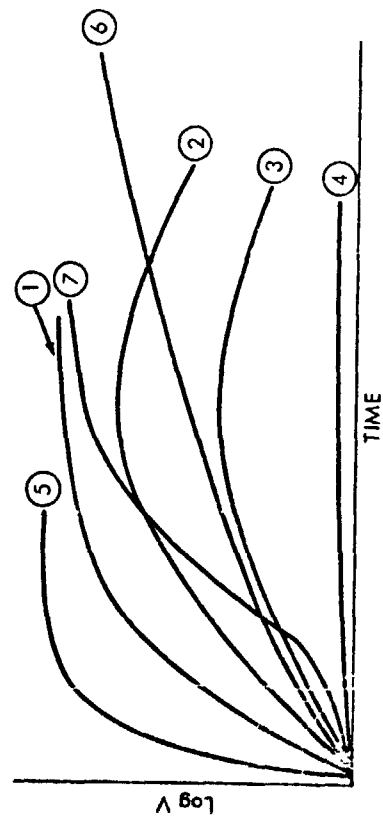

FIGURE 111
If you short out for 16 hours, you might be operating from this current level (ref. 109), and of course get a very fast rise (curve 5, ref. fig. 111). If you short out from this point out here, (ref. fig. 3, curve 6), like 48 hours, the current source may be very small, and you'll get this kind of response.
Now, there's an additional effect that we've seen that I don't have a solid explanation for. But the voltage does not rise immediately. It goes up like this (ref. fig. 111, curve 7). It's exponential, once it starts. But it has a delay time. This is the open-circuit recovery. And I don't know why that delay occurs; again, cells that have this appear to operate in charge-discharge mode similar to ones that don't have it, so it doesn't appear to be related to some of those kinds of performance parameters, but cells that exhibit this will have all of these features, as well.